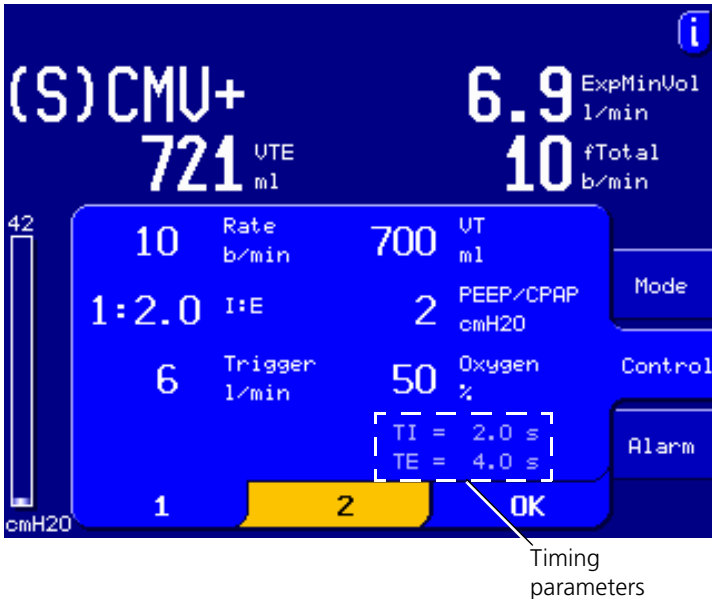

Figure 4-6. Control window 1 - no mode change
- In all modes except ASV, SPONT, and NIV, timing parameters, determined from the timing settings, are displayed (see Figure 4-6). The definitions of I:E, Rate, TI, and T low parameters are identical to the settings described in Table 4-4. TE is the duration of the expiratory phase.
1. Open control window 1 (Figure 4-6) by pressing the Control key.